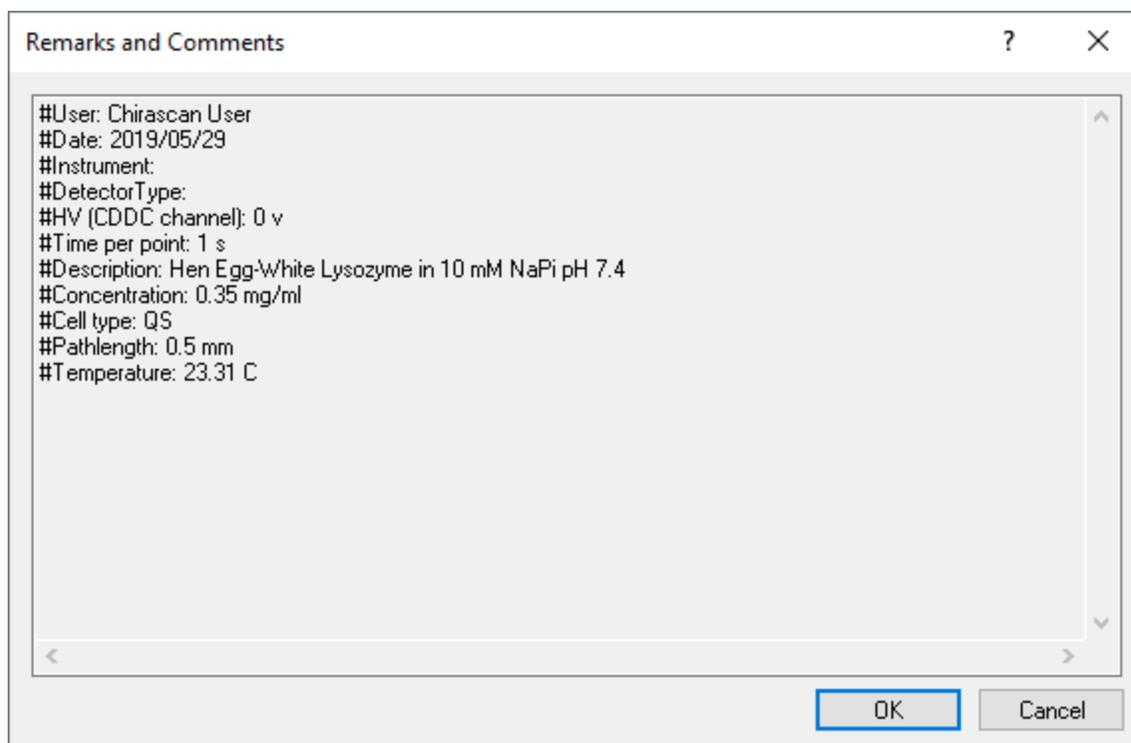

Figure 68: The Remarks and Comments dialog
- **History...** opens the **History** dialog (Figure 68) which shows the time and date stamps and the results of operations^[113] performed on the data (such as baseline subtraction, smoothing, curve fitting etc.).